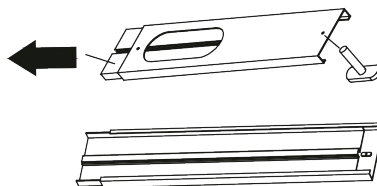

Fig. 2
- Pull the inner part of the window channel out until the drill hole in the outer part is exposed. Run the screw through the drill hole (Fig. 2) paying attention to the direction.